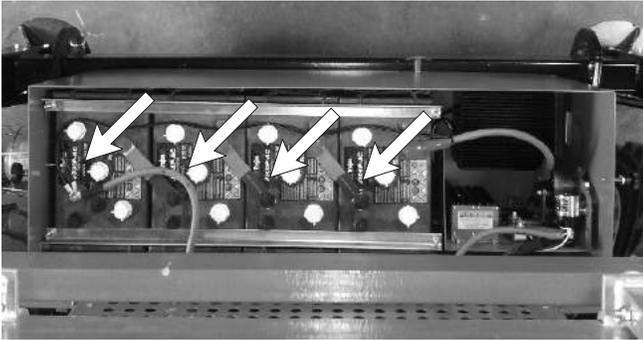

Figure 11.5 - DC Motor Batteries
There are two (2) Master Battery Isolater Switches mounted at the end of the control cabinet (see Figure 11.5).
Unscrew the knurled knobs at each end of the cabinet to remove the lid to gain access to the batteries (see Figure 11.5).